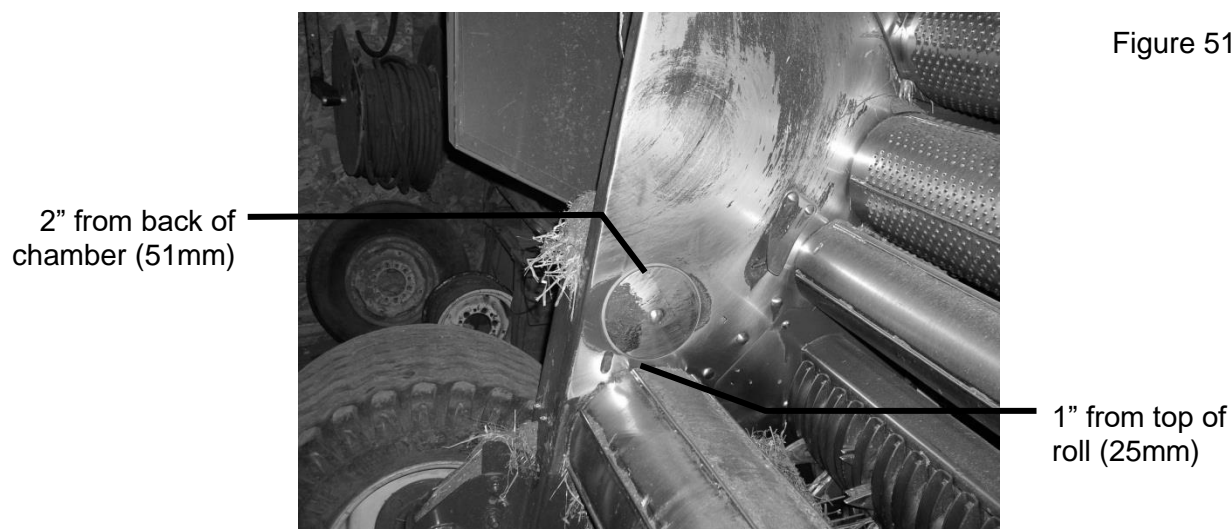

Figure 51
2. If your baler is not equipped with bale shaping pads you will need to drill a hole in the chamber directly behind and above the starting roll. (Figure 51)